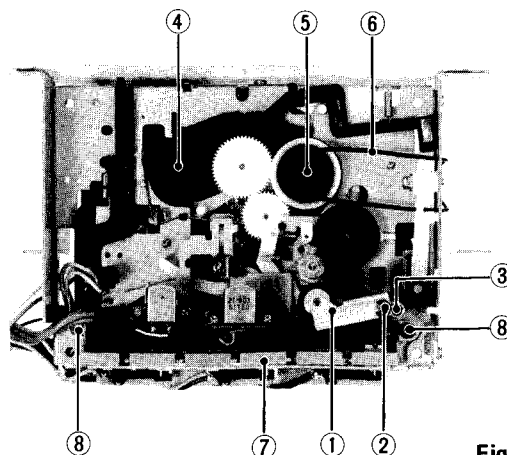

Fig. 6
1. Pinch roller ass'y (1) (Fig. 6)
2. Supply reel disk and take up reel disk (Fig. 6)
3. Tape counter (Fig. 6)
4. Buttons case unit (7) (Fig. 6)